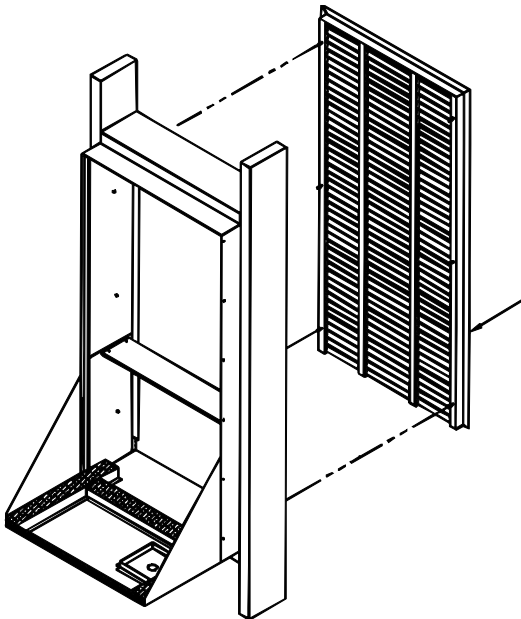

Figure 3
2. Install 6 threaded studs into the threaded holes in the grille (Figure 3). **NOTE:** Studs, nuts and washers may be attached to the grille or may be found in bulk packaging with the grille shipment.
4. Fasten the sleeve to the wall studs at 3 locations on each side. See Figure 3 for approximate locations. Note: It is recommended to use fasteners with seal washers to minimize the possibility of water leakage into the wall.